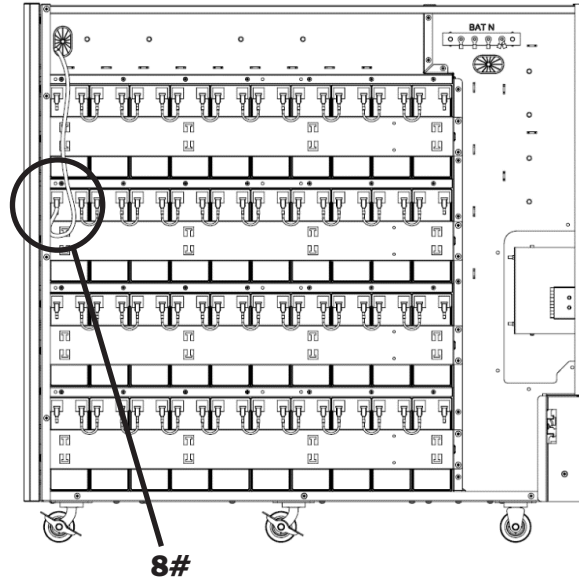

Figure 5-20B
30. Connect group 3 battery 20- to - battery bus bar (BAT -) (Figure 5-20B).